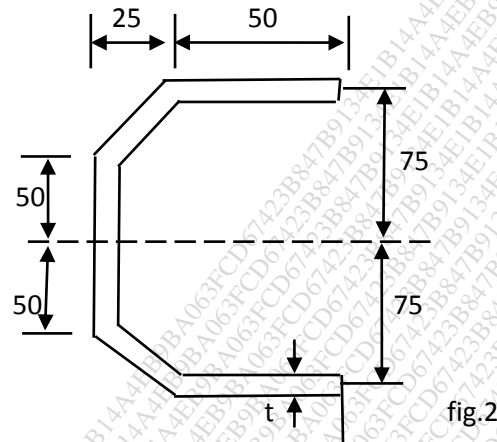

fig.2
Q.6 Determine the shear Centre of the thin walled section shown in fig.2. The thickness t is constant. 13